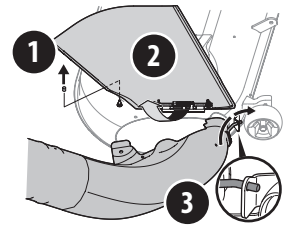

Figure 15
- If present, remove the protective cap off of the mounting stud on the mowing deck as shown in (1) of Figure 15.
- With the tractor's discharge chute raised up and held open (2), install the chute elbow by placing the chute elbow mounting pin into the hole provided (3), as shown in Figure 15.